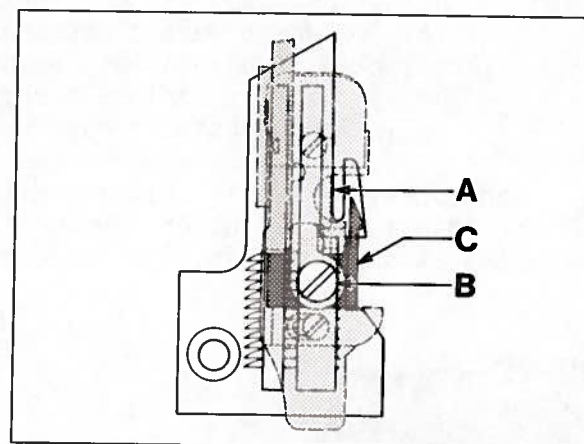
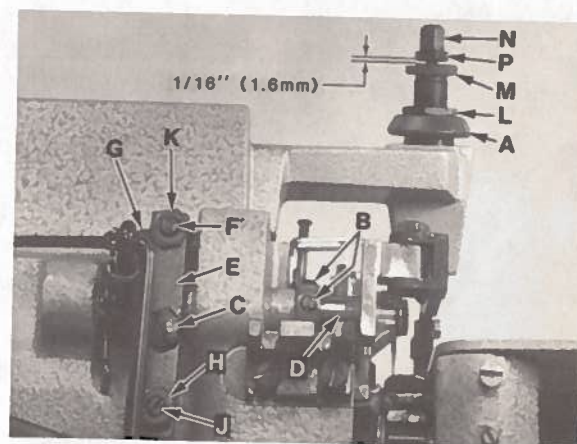

Fig. 18
Fig. 19
Right edge of presser foot must align with left edge of needle slot in throat plate as shown Ref. Point A, Fig. 18. Presser foot must lie flat on throat plate. The adjustable stitch tongue on presser foot must center over stitch tongue of throat plate as shown in Fig. 18. If adjustment is required, lock presser foot in sewing position by release bushing (A, Fig. 19), loosen collar screws (B) and clamp screw (C), then adjust lifter lever shaft (D) left to right until the right edge of presser foot aligns with the left edge of needle slot in throat plate as shown in Ref. Point A, Fig. 18. Tighten collar screws (B, Fig. 19) and while holding lifter lever arm (E) so its stop screw (F) is against intermediate lever (G), tighten clamp screw (C). Completely unlock release bushing (A, Fig. 19). Plunger should clear presser arm without binding. Loosen screw (B, Fig. 18) and adjust stitch tongue (C) left to right, to center over stitch tongue of throat plate as shown in Fig. 18, then tighten screw (B). On all Styles except 39500 XQJ, XRB, XRC, and CXQJ; a pivot type presser foot shank allows precise adjustment of presser foot, forward - rearward and flatness on throat plate for optimum feeding.
Lift presser foot to highest position and rotate handwheel in operating direction. Upper looper/spreader must not contact presser foot at any point of travel. If adjustment is required, loosen locknut (H, Fig. 19) and adjust stop screw (J) so presser foot will not interfere with upper looper/spreader, then tighten locknut (H). Loosen locknut (K) and set stop screw (F) on upper end of lifter lever arm so there is approximately 1/16 inch (1.6mm) free motion in lifter lever before presser foot starts to rise, then tighten locknut (K).
Sufficient pressure must be maintained to feed work uniformly. Excessive spring pressure will cause feeds and presser foot to wear prematurely when chaining. If adjustment is required, rotate handwheel in operating direction until both main and differential feeds are positioned below throat plate. Loosen locknut (L, Fig. 19) and turn adjusting screw (M) clockwise for more pressure or counterclockwise for less pressure, then tighten locknut (L).
Lock presser foot in position with pressure release bushing (A); loosen capnut (N) and adjust nut (P) up or down so its under surface is 1/16 inch (1.6mm) above screw (M) as shown in Fig. 19. Hold nut (P) in position and tighten capnut (N).